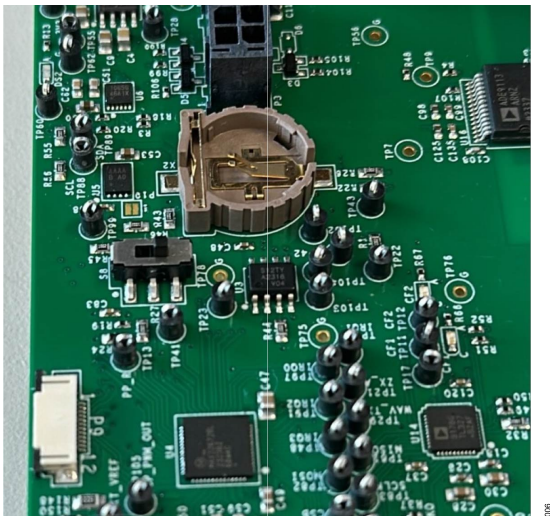

Figure 6. SBL Switch Reference
5. Set switch S8 to the position shown in Figure 6 to enable the secure boot loader (SBL) of the MAX32672.